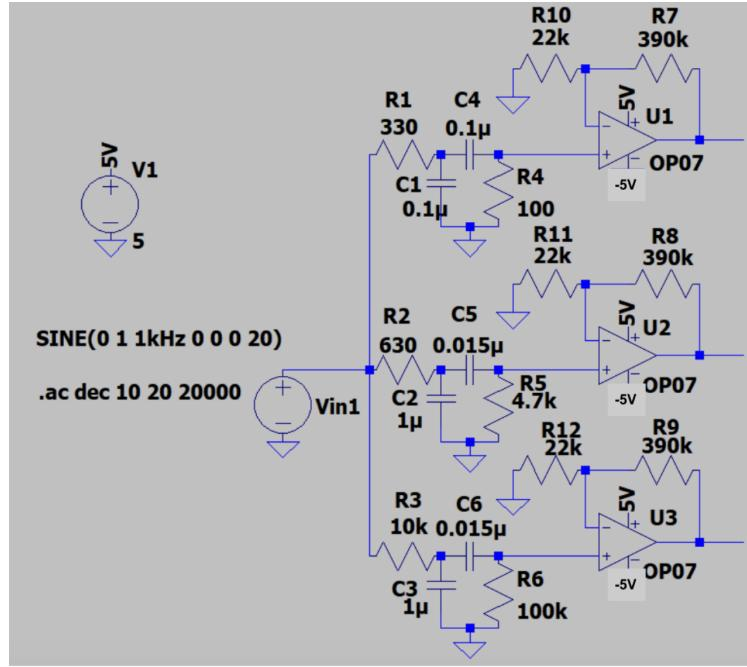

Figure 1: Schematic for filtering stage of analog spectrum analyzer
I calculated the lower and higher cutoff frequencies of each bandpass filter shown in Fig. 1 using the RC filter equation and the appropriate resistance and capacitance values.
1. Construct the filtering stage using ceramic capacitors according to the schematic in Fig. 1, and connect the input of this stage to the output of the amplification stage.